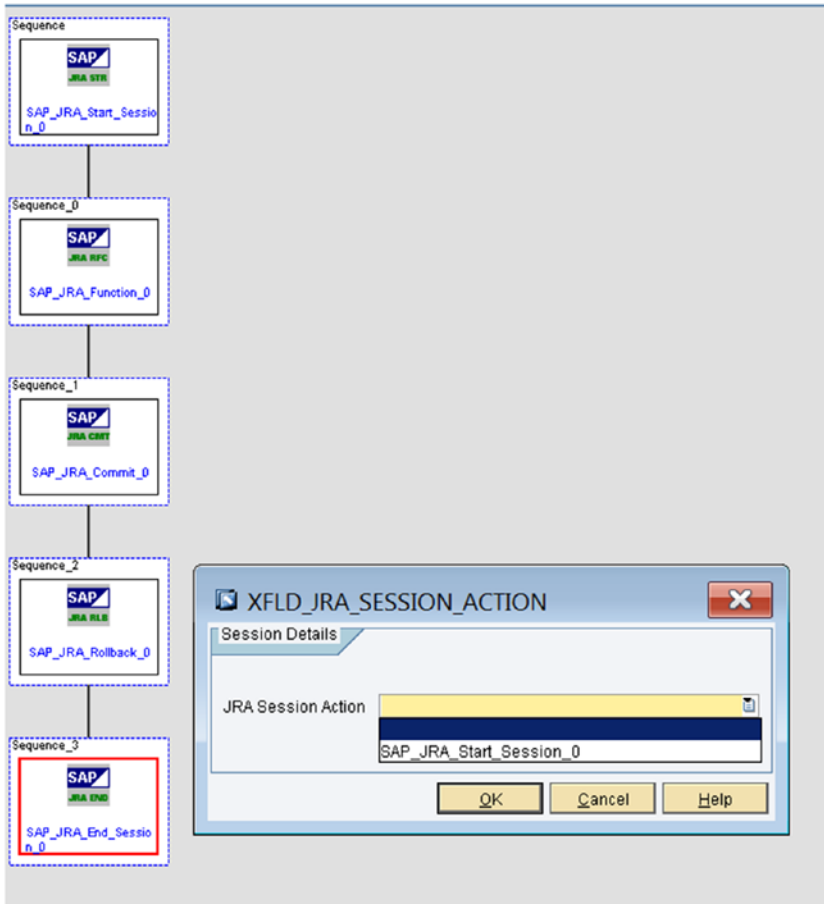

Figure 7-167. JRA end session action and its configuration
- *SAP JRA End Session:* This action can be used to close a session between SAP MII and SAP ERP Central Component (SAP ECC) using the SAP Java Resource Adapter (SAP JRA). See Figure 7-167.